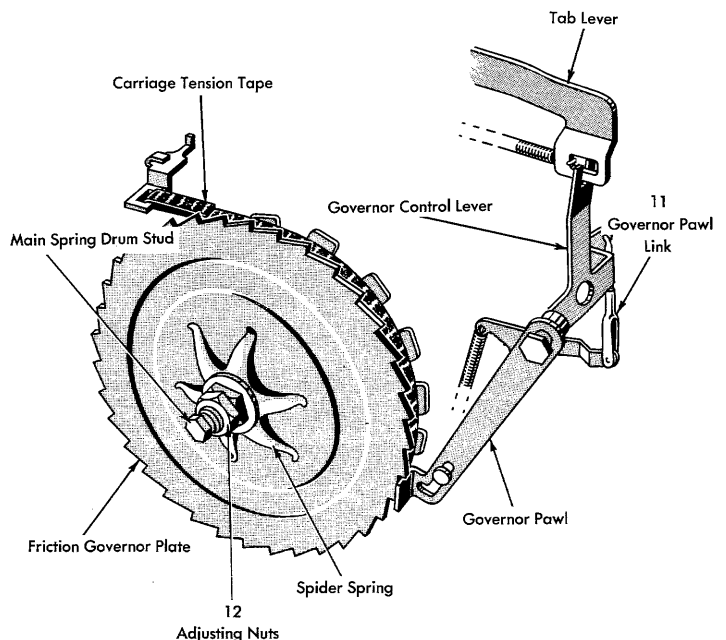

Figure 46. Tab Governor Adjustment
11. Adjust the tab governor pawl link so that the governor pawl engages the friction ratchet by the thickness of its own metal with the tab lever latched (Figure 46). Allow the carriage to move a short distance to fully extend the pawl before observing the engagement.
12. Adjust the friction governor pressure by the two locking nuts on the hub of the main spring drum until the speed of tabulation approximates the speed of carriage return (Figure 46). Observe this adjustment by clearing all tab stops except the last one on the right end of the rack and tabulating the complete carriage length.